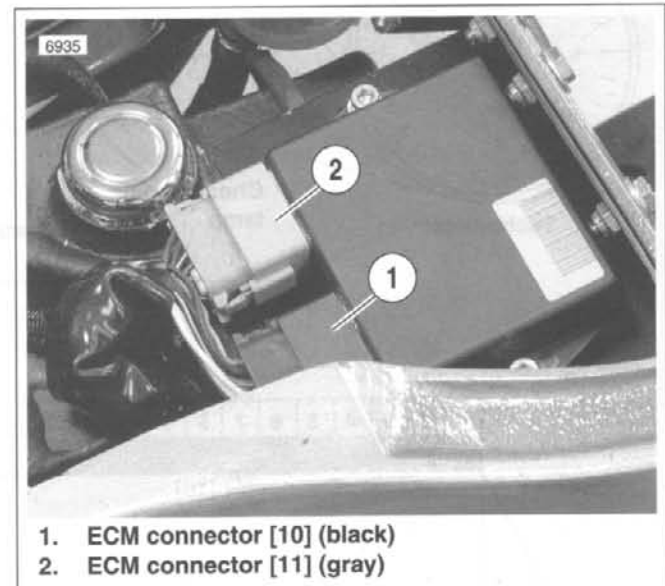

Figure 4-19. Electronic Control Module
2. See Figure 4-19. Inspect connector [10] (black) for contamination or corrosion. If connection is good, replace ECM. See 4.28 ELECTRONIC CONTROL MODULE.